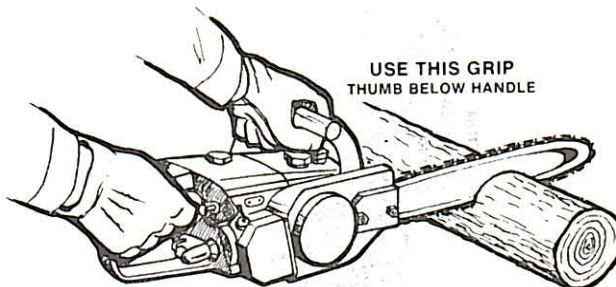

Fig. 12—Correct Grip
10.07 Hold the saw with both hands during operation. See Fig. 12.